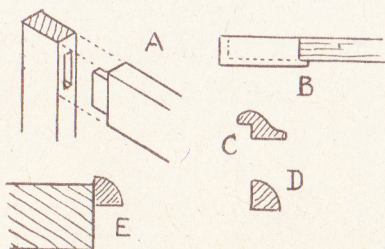

Fig. 2—Details of joints and moulding
detail (A) in Fig. 2. Make the joints a close fit, and well glued.
At the top and bottom, strips of $\frac{1}{2}$ in. wood are glued and pinned along. These overhang the front by $\frac{1}{4}$ in., also the ends. The outer pieces on the top should be cut away $\frac{1}{2}$ in. where they join the centre wider part, so that they extend that distance across at each inner end. This is explained at (B) Fig. 2, and will be noticed in the view of the completed board.